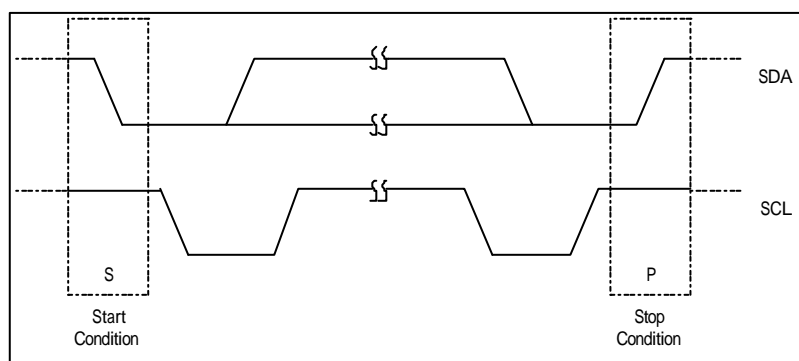

Fig 4.1 Start and Stop Conditions
- Start and stop condition: A high to low transition of the SDA line while SCL is high defines a start condition. A low to high transition of the SDA line while SCL is high defines a stop condition. Please refer to Fig 4.1.